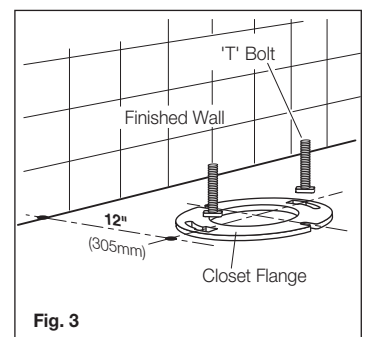

Fig. 3
It is essential for the installation of the Sydney 305 Two Piece Washdown toilets that the closet flange be accurately set out from the finished wall as detailed in **Fig. 3**.
- 1- Position 'T' bolts into closet flange, as detailed in **Fig. 3**.